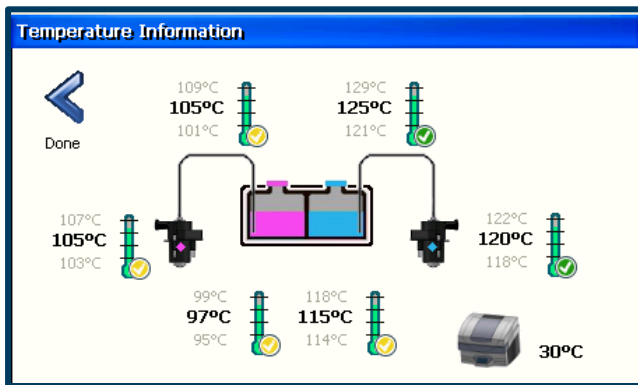

Figure 6a:
- Printers will show yellow check marks on the thermal screen for components until the default set point patch is installed (Figure 6a and 6b)
6. If successful, the checkmark on the temperature screen will turn green (Figure 6a and 6b).